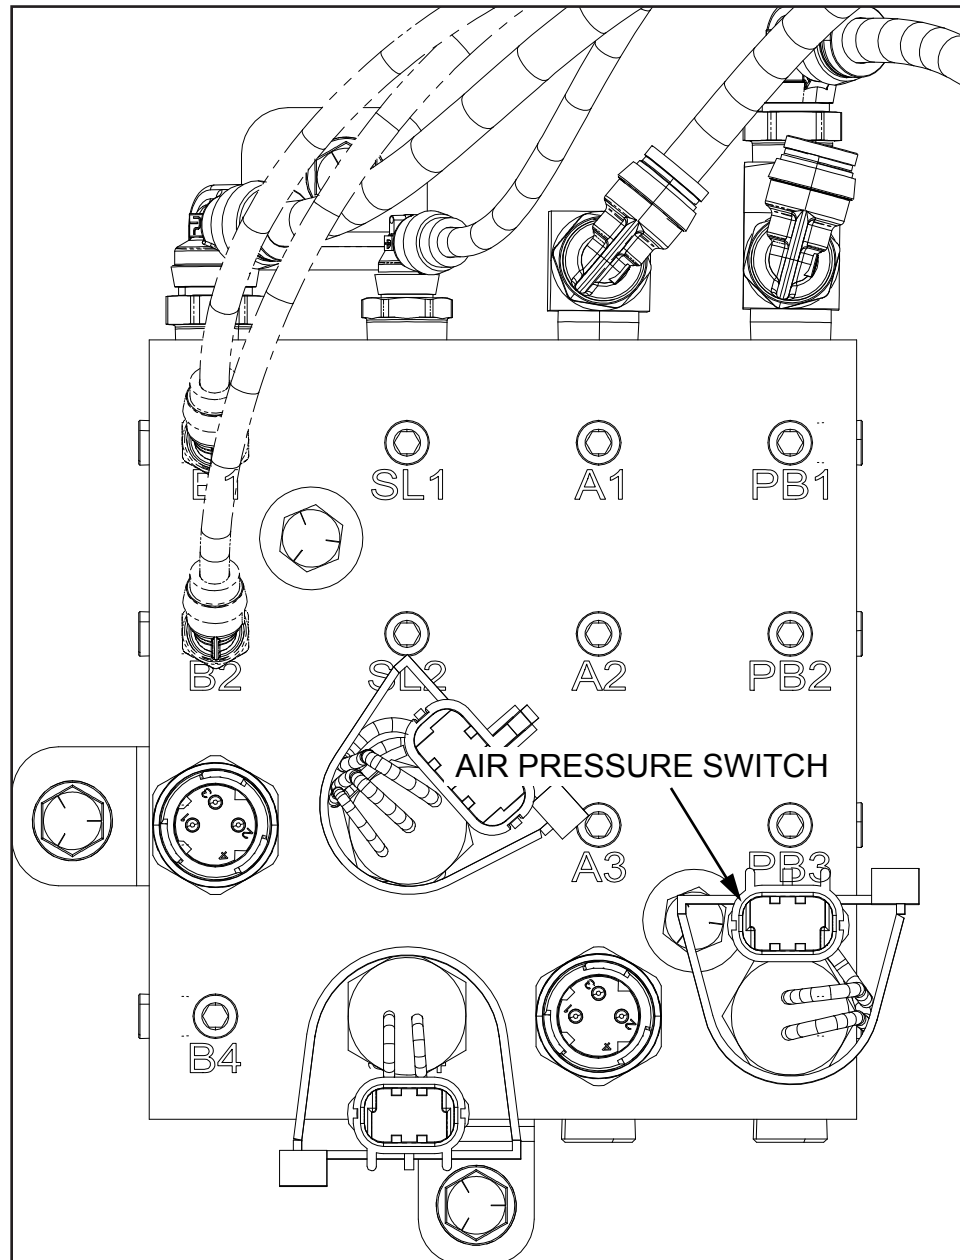

Figure 7
4. Disconnect the electrical connector from the air pressure switch (see Figure 7).